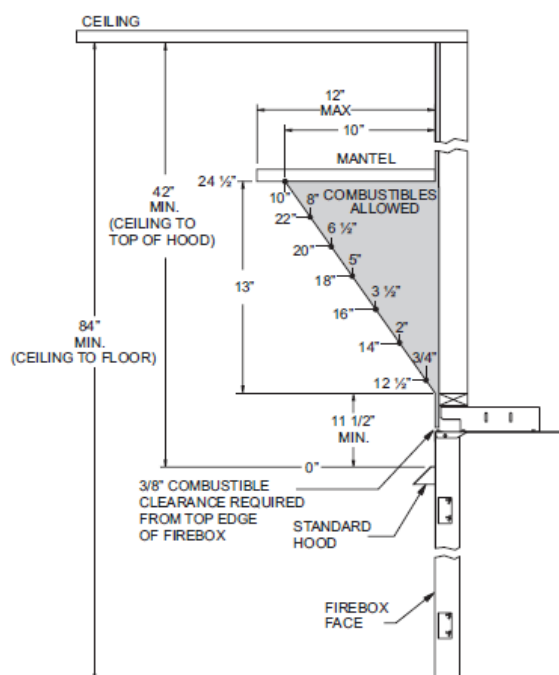

Figure 3a - Mantel Clearances with Standard Hood
- **Ceiling Clearances:** The ceiling height should not be less than 42" from the top of the hood. See Figures 3a and 3b.